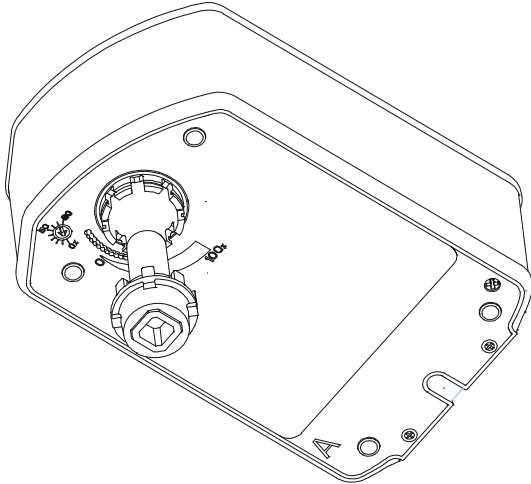

Figure 12: Inserting the drive
4. Insert the drive shaft into Side A (Figure 12).